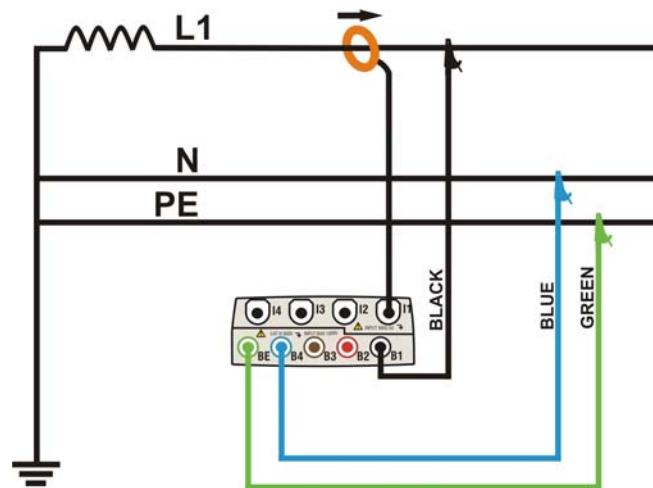

Fig. 174: Meter connection in a Single phase system
2. Connect voltage test leads on Phase, Neutral and Ground cables considering the colours as shown in Fig. 174).
3. Connect the transducer current clamp on L1 Phase cable as shown in Fig. 174) respecting the clamp's arrow direction indicating the current standard sequence from generator to load. **On Real Time Values' section screens always verify the positive value of Active Power and the power factor relative to load which should be normally inductive** before starting a recording. Reverse the clamp by 180 degrees on cables in case of negative readings.